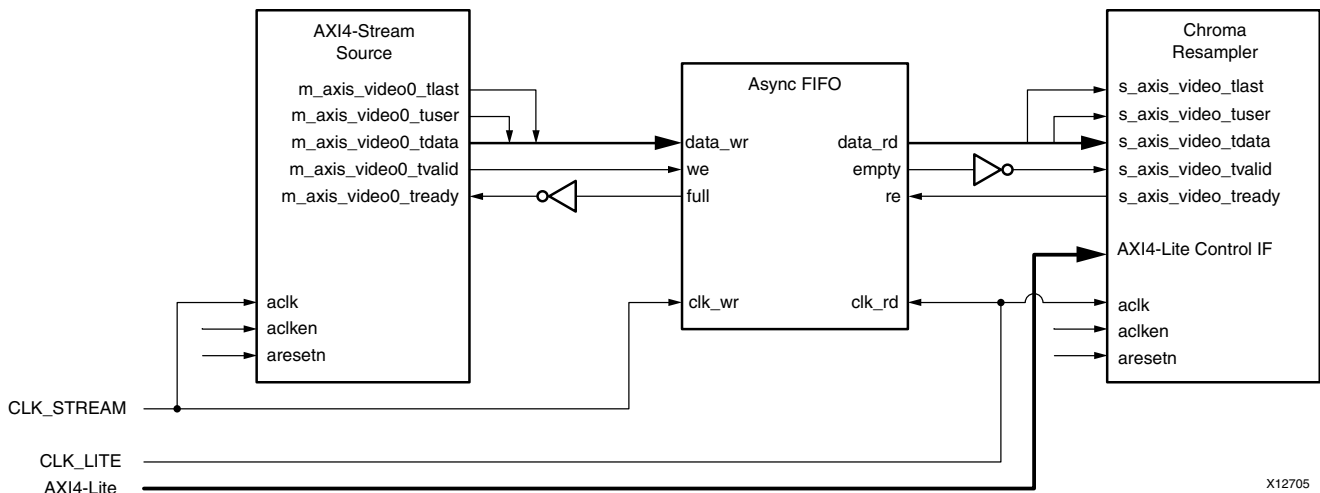

Figure 4-7: Image Noise Reduction Core Top-Level Signaling Interface
- ( $F_{CLK\_STREAM} < F_{CLK\_LITE}$ ) then clock-domain crossing logic needs to be inserted before the AXI4-Stream interface, and the Image Noise Reduction core needs to be clocked at the AXI4-Lite clock via the `ACLK` pin, as shown in Figure 4-7. Alternatively, if  $F_{CLK\_LITE}$  greater than of the  $F_{MAX}$  of the Image Noise Reduction core, clock domain crossing logic can be inserted in front of the AXI4-Lite Control interface.
In either case, Xilinx System Integrator tools, such as EDK, can automatically infer clock-domain crossing logic using the AXI interconnect core, when the tool detects that the master / slave side of AXI4 interfaces operate on different CLK rates. For manual instantiation of clock-domain crossing logic, HDL users can take advantage of the FIFO Generator IP core, as shown in Figure 4-7.
**Note:** When two cores connected via AXI4-Stream interfaces, where only the master or the slave interface has an `ACLKEN` port, which is not permanently tied high, the two interfaces should be connected via the AXI4-Stream Interconnect or AXI-FIFO cores to avoid data corruption (Figure 4-7).